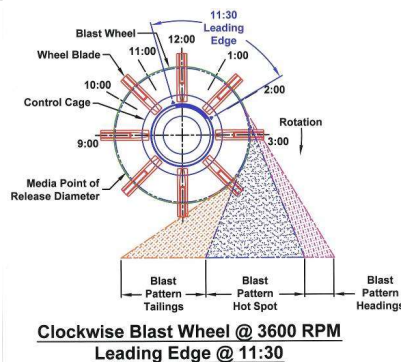
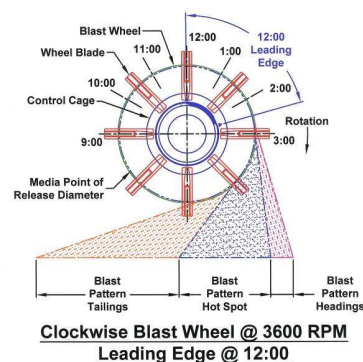
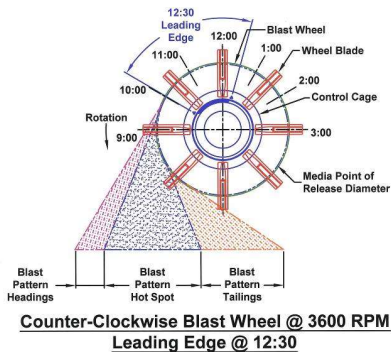
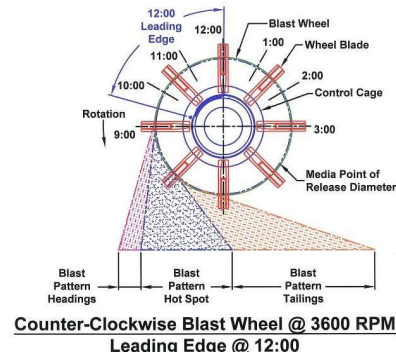

Figure 4-2
Figure 4-3
Figure 4-4
Figure 4-5
2. To better understand this important setting, please study the sketches shown in Figure 4-2, Figure 4-3, Figure 4-4 and Figure 4-5. Figure 4-2 and Figure 4-3 show a clockwise blast wheel with control cage in two different locations. Notice the shift in the blast pattern from right to left as the control cage is rotated in a clockwise direction. In a similar way, Figure 4-4 and Figure 4-5 show a counter-clockwise blast wheel and the shift in the pattern from left to right as the control cage is rotated counter-clockwise. Therefore, by rotating the control cage in either direction, the blast pattern may be aimed to the exact position necessary to produce the optimum results for your surface preparation requirement.
1. The areas in Figure 4-2, Figure 4-3, Figure 4-4 and Figure 4-5 referred to as a "Hot Spot" are characteristic of all blast wheels and are in the areas of the blast where about 70% of the blast intensity is contained. The position of the "Hot Spot" is therefore very important in terms of surface preparation efficiency.